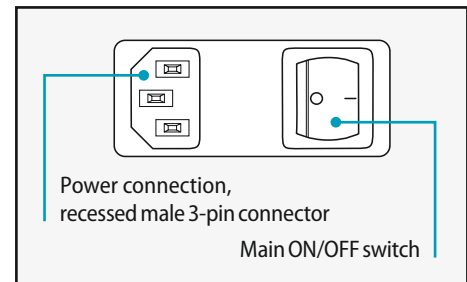

Figure 2.3: Power connection
The power connection (see Figure 2.3) module is located at the rear of the CliniMACS Plus Instrument. Viewed from behind, the connection consists of three sections. The left section is the recessed male 3-pin connector to which the power cord is attached. The center section is the main power ON/OFF switch. When positioned to the left, the switch is 'OFF' (0). When positioned to the right, the switch is 'ON' (I).